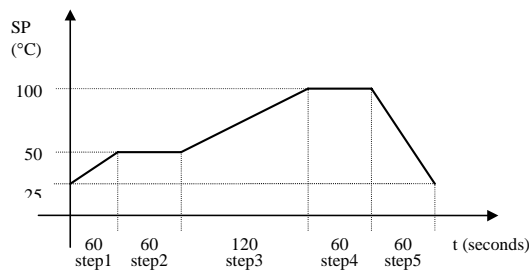

Fig.1 - Setpoint profile
2) The two arrays define the Setpoint value (y-axis) in function of the time (t-axis). Between two given points, the Setpoint is calculated by interpolation. As each segment is defined by [START_VAL]_i, [DURATION]_i and [START_VAL]_{i+1}, a profile with “n” segments will need **n+1** starting values and **n** time durations. As example, the two following arrays define the profile shown on Fig. 1: